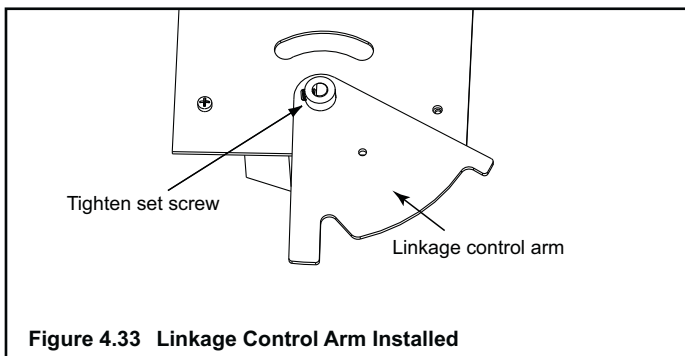

Figure 4.33 Linkage Control Arm Installed
- Place linkage control arm over timer shaft and tighten set screw, Figure 4.33.